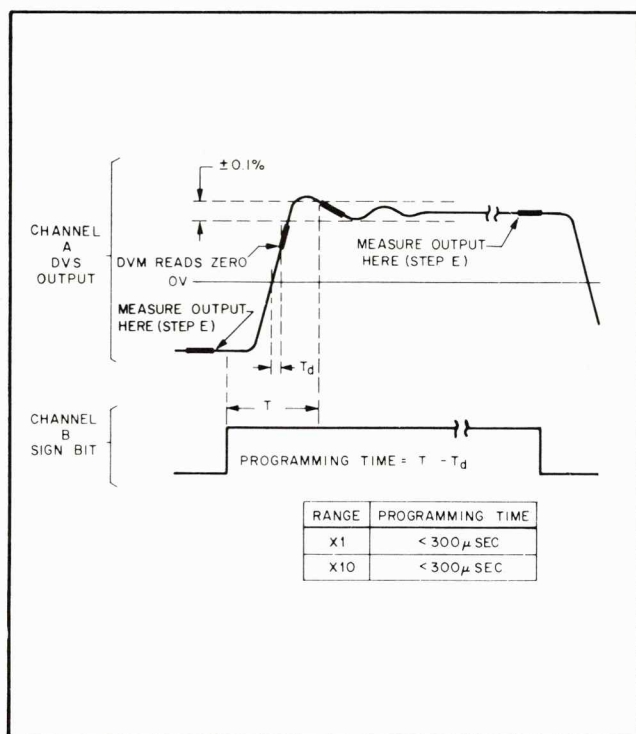

Figure 5-3. Programming Time Waveforms
e. Measure the voltage just prior to the waveform transitions (see Figure 5-3). Voltage reading should be within 0.1% of ΔV_{OUT} . Note that ΔV_{OUT} is two times 99.99V or about 200V. The output voltage should be within 0.1% (or 0.2V) of this value within 300 microseconds.
g. Now, slowly move the bright spot to the left while watching the 3490A indication. The first point at which the reading changes by 0.1% from the reading made in step (e) is the point after which the output voltage remains within a $\pm 0.1\%$ tolerance band. Programming Time is therefore the time between this point (less T_d) and the transition time of the channel B trace (see Figure 5-3).